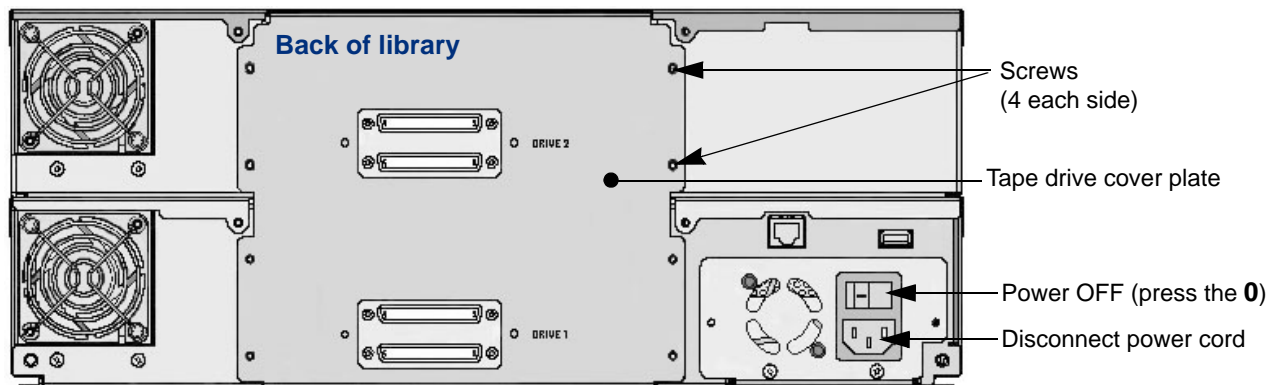

Figure 14 Tape drive cover plate (FH SCSI library)
a. Locate the tape drive cover plate (see “Tape Drive Cover Plates” on page 3 and Figure 14 below). Remove the necessary SCSI plates, then attach the tape drive cover plate with the screws you removed earlier.
- a. Attach the SCSI cover plate and the tape drive cover plate that came with your replacement kit. See “Tape Drive Cover Plates” on page 3 and Figure 14 on page 11.
- a. Attach the SCSI cover plates and the tape drive cover plate that came with your replacement kit. See “Tape Drive Cover Plates” on page 3 and Figure 14 on page 11.